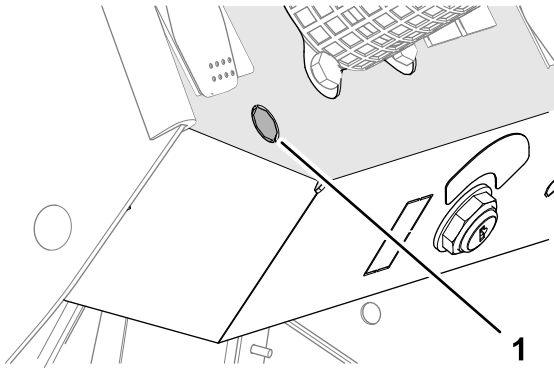

Figure 7
1. Remove the knock-out plug from the dash panel (Figure 7).